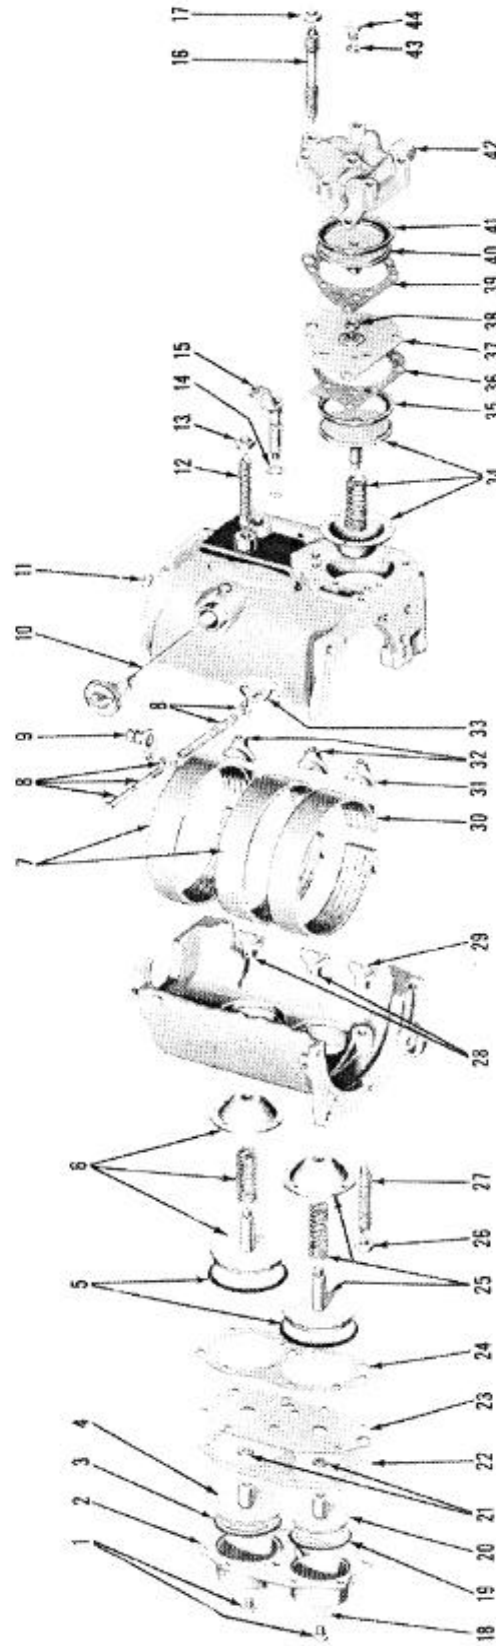

FIGURE 74 - EXPLODED VIEW - TRANSMISSION CASE, SERVOS, SERVO BANDS
1. Separate the reverse servo cylinder plate (37), Figure 74, from the cylinder (42) and slide the plate off the piston rod of the outer piston (40).
2. Remove the cylinder outer gasket (39).
3. Grasp the outer piston rod and pull the piston (40) out of the cylinder (42).
4. Using a hook tool, remove "O" ring seal (38) out of the groove in the cylinder plate (37). Discard the seal.
5. Lift the piston seal (41) out of the groove of the piston (40) and bring it over the top of the piston and out of the piston groove,. Discard the seal.